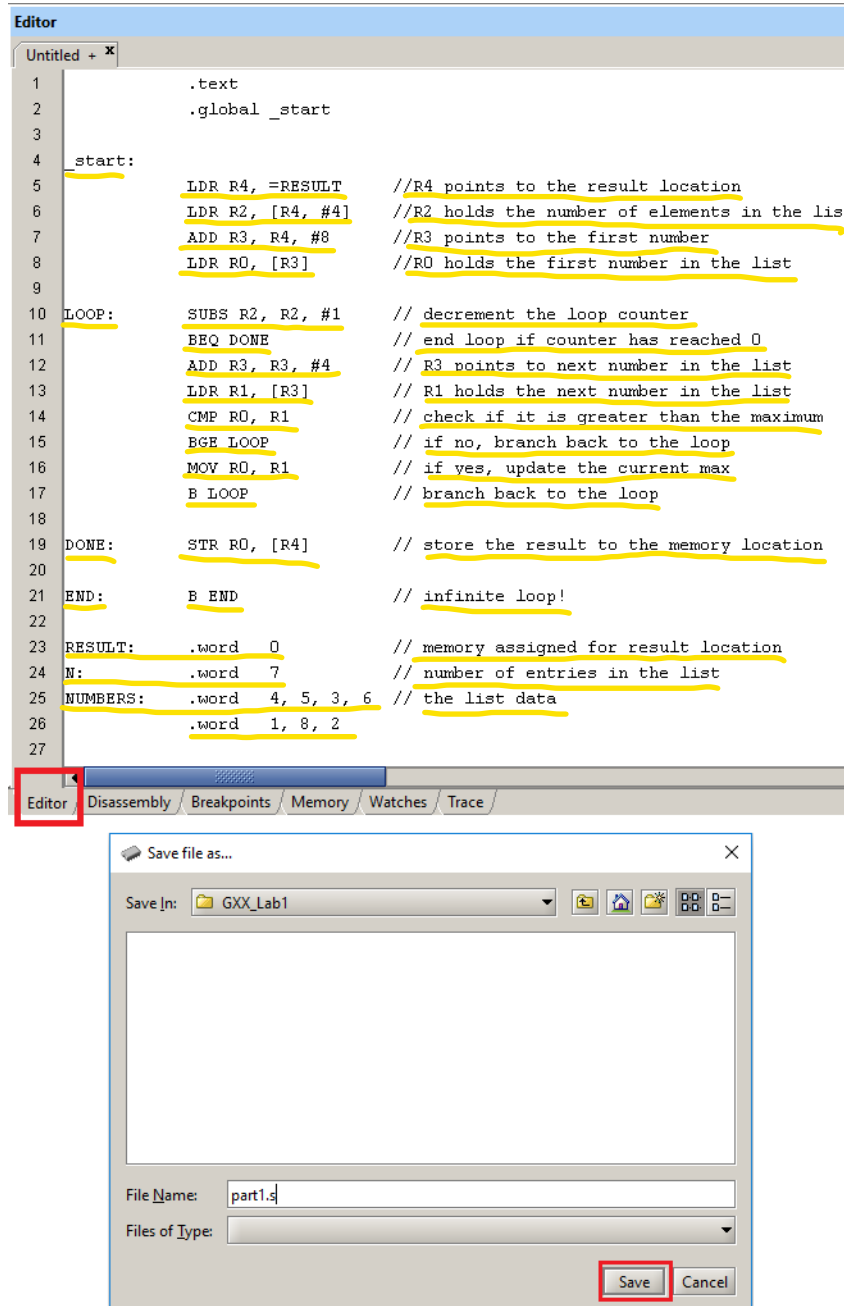

Figure 2: Your first assembly program - Step 2
2. In the new editor window, type out the code as shown in **Figure 2** and save this file as 'part1.s' within a new folder 'GXX\_Lab1' on your network drive. **Here, GXX stands for your group number! eg. Group 1 would be G01\_Lab1.** The code is a simple program **to find the maximum number from a list of 'NUMBERS' with length 'N'.** Notice the extensive use of comments! This practice should be used throughout this course, especially with assembly programming!